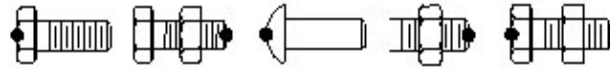

Figure 17
2. After selecting the points, click on the “Auto Sequence” start arrow and the program will sequence you through the measuring of those points. Results again will appear as illustrated in Figure 17.